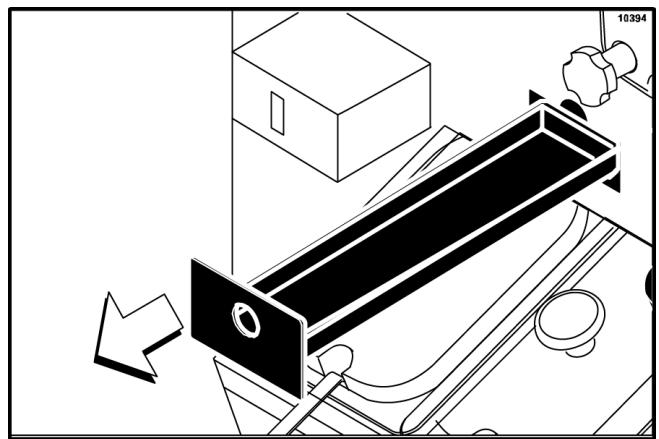

Figure-106
7. Remove the long drip pan from the front panel. Take it to the sink for cleaning. (See Figure-106.)